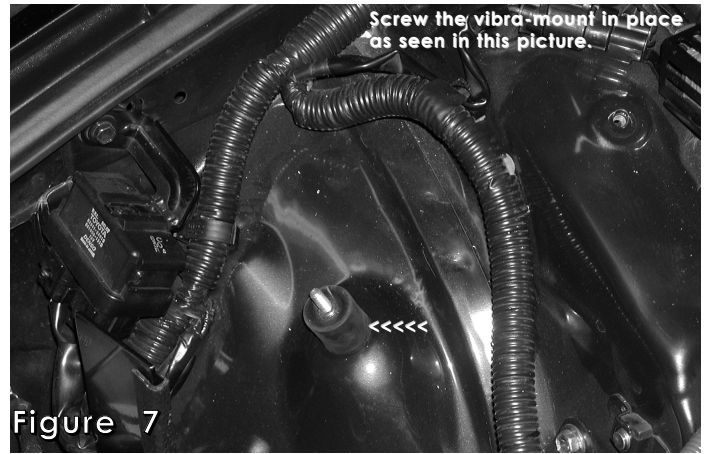

Figure 7
- 6- Take the vibra-mount and screw it in place by the strut tower mount. (See fig. 7)